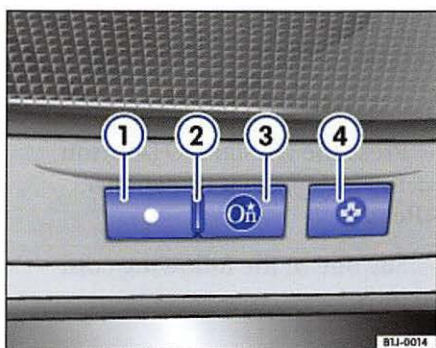

Fig. 9 OnStar services button
- Press the blue **OnStar** button ⇒ fig. 9 ③ in your vehicle.